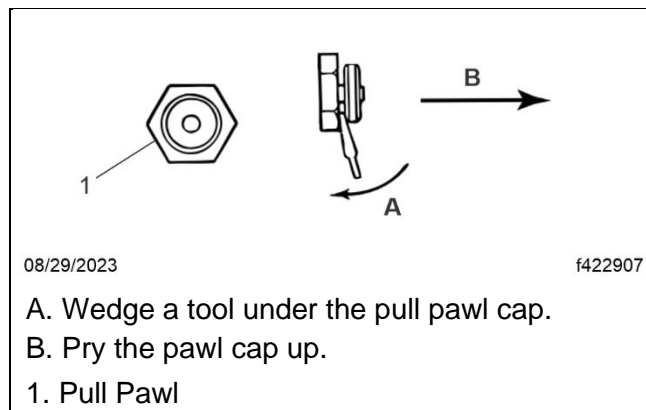

Fig. 4, Disengaging the Pull Pawl
- Disengage the pull pawl by carefully prying up on the pawl cap. Leave the tool wedged in this position until the adjustment is complete. See Fig. 4.